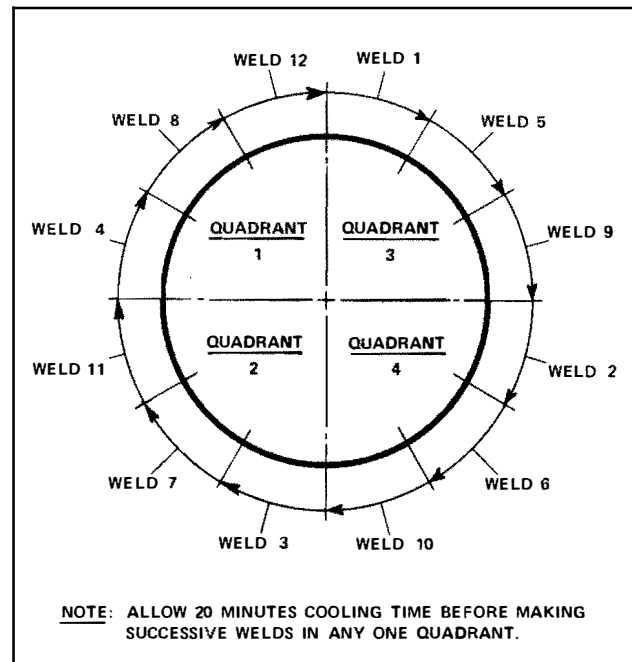

Fig. 4 CRW Bushing Installation Welding Procedure When Using the Wet Asbestos Method of Cooling Bushings
- 2) Proceed to weld the bushing flange in approximately one inch segments, as shown in Figure 4. (Each segment shall not exceed 10 seconds to weld.) To prevent overheating of the bushing during welding of the flange, 20 minutes should elapse before successive weld passes are made **in the same quadrant**. Figure 4 shows a bushing flange divided into four quadrants, with each quadrant having three weld passes. Weld passes are numbered in the order of recommended completion.
- 4) Weld the bushing to the mounting ring by the gas tungsten arc method using helium gas and a 200 ampere D.C. welder. No filler rod or flux is necessary. Weld parts together in accordance with Figure 4, moving as quickly as possible along the weld. Deep weld penetration